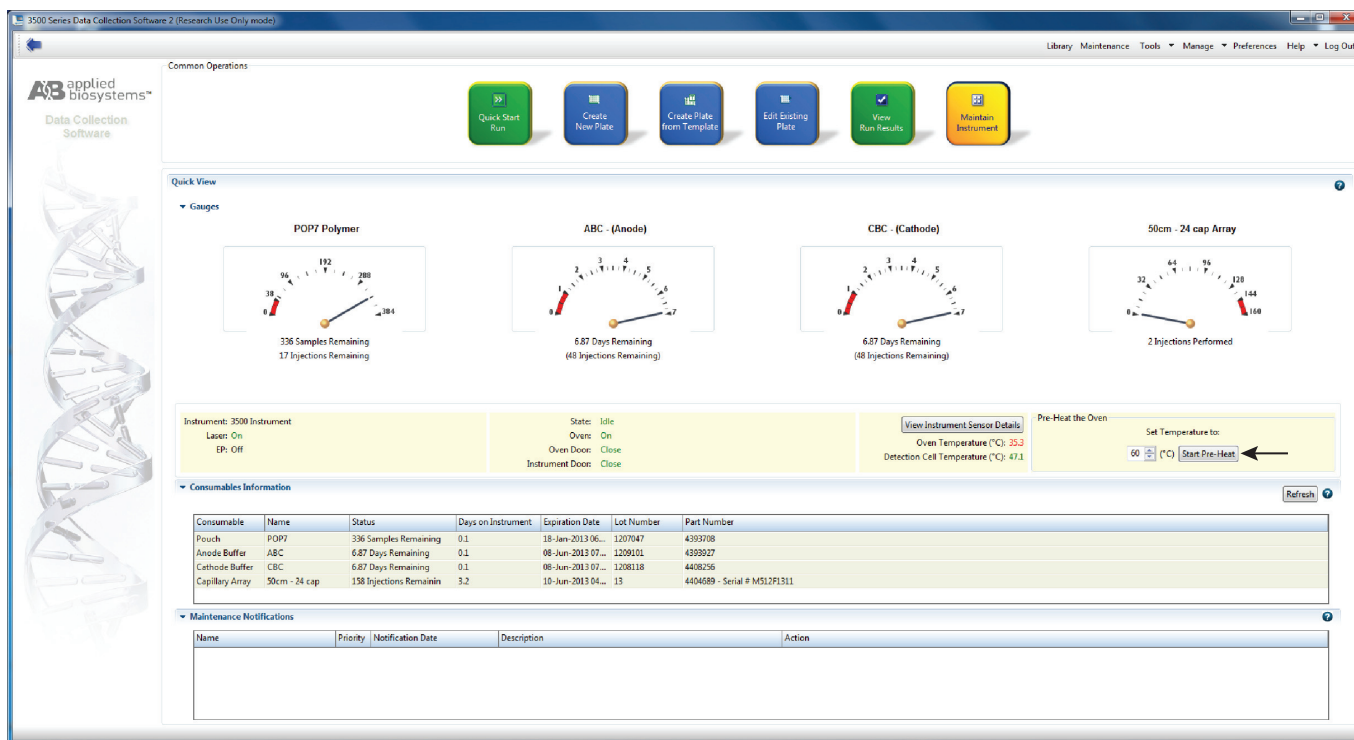

Figure 1. The Dashboard.
- If you have not already preheated the oven to 60°C, select “Start Pre-Heat” (Figure 1). Applied Biosystems recommends that you preheat the oven for at least 30 minutes before you start a run if the instrument is cold.
1. Open the 3500 Data Collection Software. The Dashboard screen will launch (Figure 1). Ensure that the Consumables Information and Maintenance Notifications are acceptable. Set the oven temperature to 60°C, then select “Start Pre-Heat”. Applied Biosystems recommends that you preheat the oven for at least 30 minutes before you start a run if the instrument is cold.